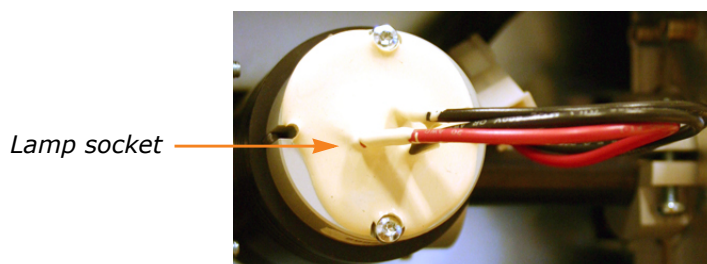

Figure 5-13. Turn the UV Lamp and Remove
5. Turn the UV lamp into a horizontal position with the lamp socket facing you; see Figure 5-13.
6. Remove the two screws on the lamp socket (see Figure 5-13) using a Torx 10 screwdriver.